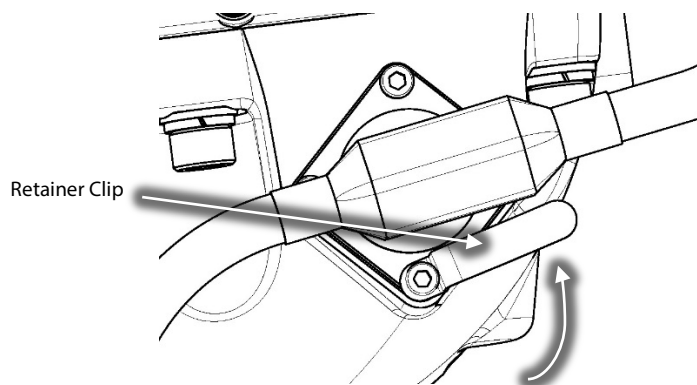

Figure 27 – Retainer Clip Rotation
18. Rotate the Retainer Clip until it is directly above the IGV Connector and torque the screw to specification. Refer to Figure 27 (Retainer Clip Rotation).